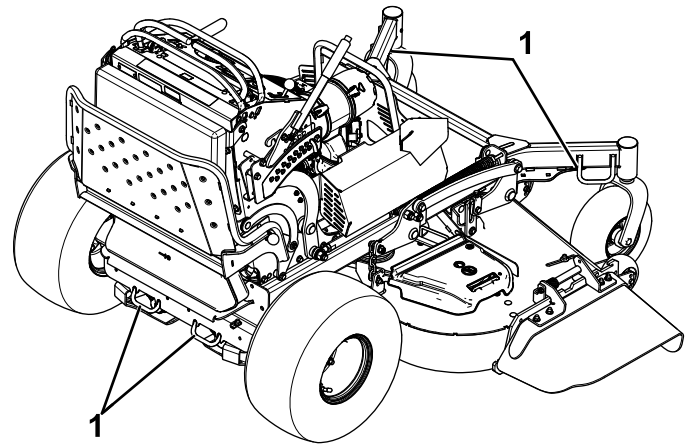

Figure 31
7. Tie down the machine near the front caster wheels and the rear bumper with straps, chains, cable, or ropes (Figure 31). Refer to local regulations for tie-down requirements.